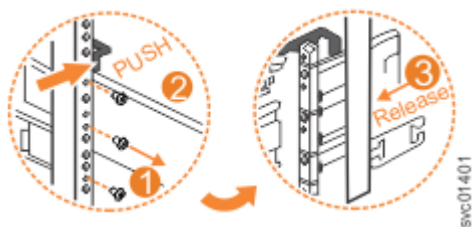

Figure 87. Remove the rail assembly from the rear frame bracket
3. Remove the two screws that attach the inner rail section to the rear bracket, as shown in Figure 87 on page 150.
4. Pull the rail forward away from the rear bracket, as shown in Figure 87 on page 150.